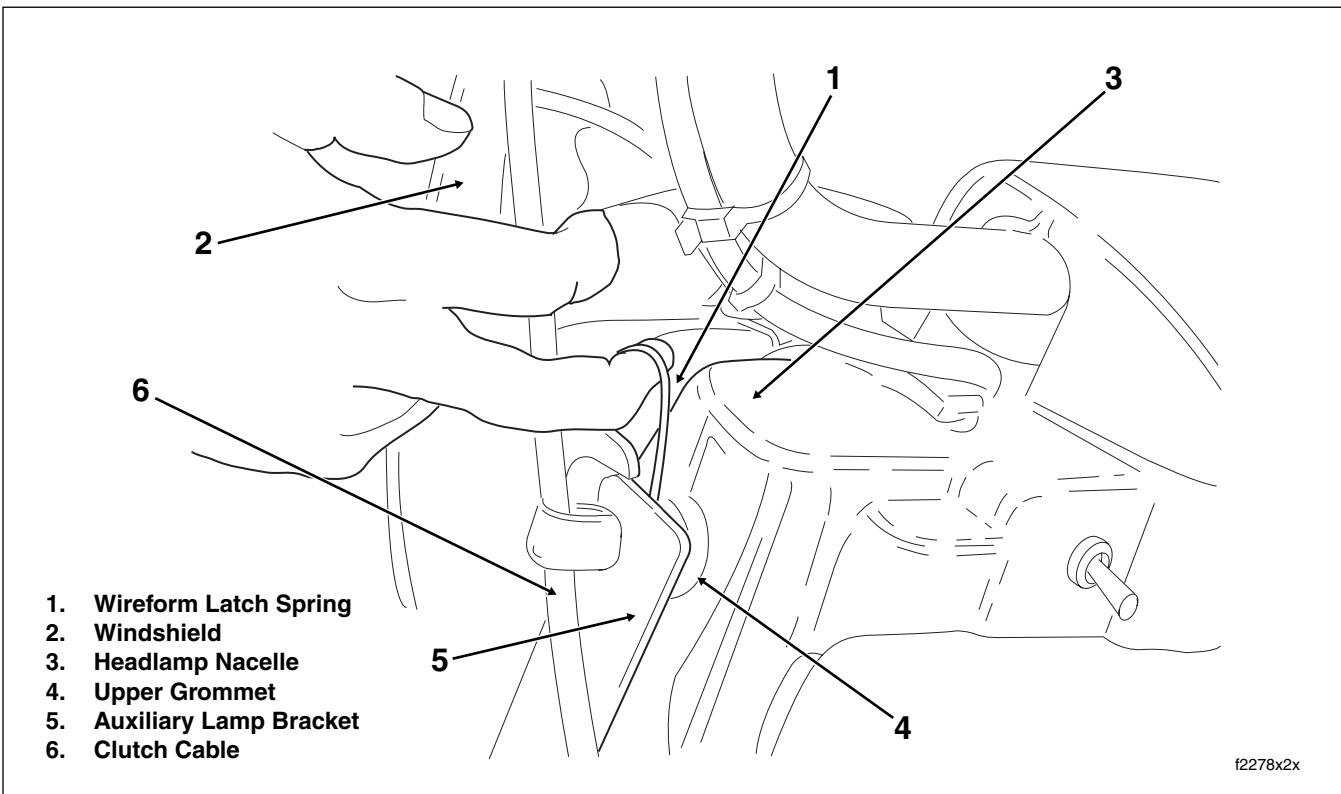

Figure 2-183. Windshield (FLHR/C)
1. See Figure 2-183. Standing at the front of the motorcycle, use a finger to raise the wireform latch springs on both sides of the windshield.
2. Gently push the top of the windshield toward the rear until the upper notches fully engage the upper grommets. See Figure 2-183.